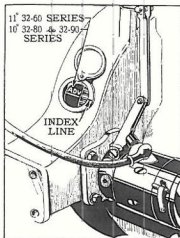
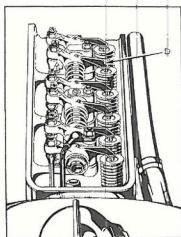

FIG. 2
FIG. 4
2. Remove valve rocker arm cover. Fig. 4.
3. Uncover timing hole at right of flywheel housing. Figs. 2 and 3.
5. With ignition off, crank engine by hand until No. 3 cylinder exhaust valve (D), Fig. 4, starts to open. Then crank over slowly and watch timing hole, Figs. 2 and 3, until the 11° mark on Series 32-60 flywheel, the 7° mark on Series 32-50 flywheel or the 10° mark on Series 32-80 and 32-90 flywheel coincides with the index line. This is the position to fire No. 1 cylinder.
12. To check timing of No. 1 breaker arm (stationary), proceed as follows: Replace rotor and cap, but disconnect all high tension wires from spark plugs. Hold No. 1 spark plug wire in such a way as to form a gap with metal part of engine. Turn flywheel over slowly until spark occurs. This should require *one and three-quarters revolutions*. Next observe position of timing mark on flywheel relative to index line on flywheel housing. Marks should line up as in Figs. 2 and 3.